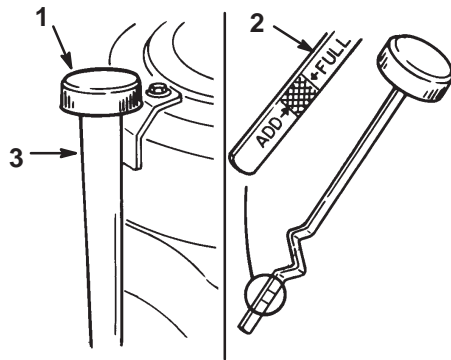

Figure 21
2. Clean around the oil dipstick (Fig. 21) so dirt cannot fall into the filler hole and damage the engine.
3. Unscrew the oil dipstick and wipe the metal end clean (Fig. 21).
4. Slide the oil dipstick fully into the filler tube, do not thread onto tube (Fig. 21). Pull the dipstick out and look at the metal end. If oil level is low, slowly pour only enough oil into the filler tube to raise the level to the "FULL" mark.
5. Slowly pour approximately 80% of the specified oil on page 26, into the filler tube (Fig. 21). Now check the oil level; refer to Checking Oil Level, page 26. Slowly add additional oil to bring to "FULL" mark on dipstick.